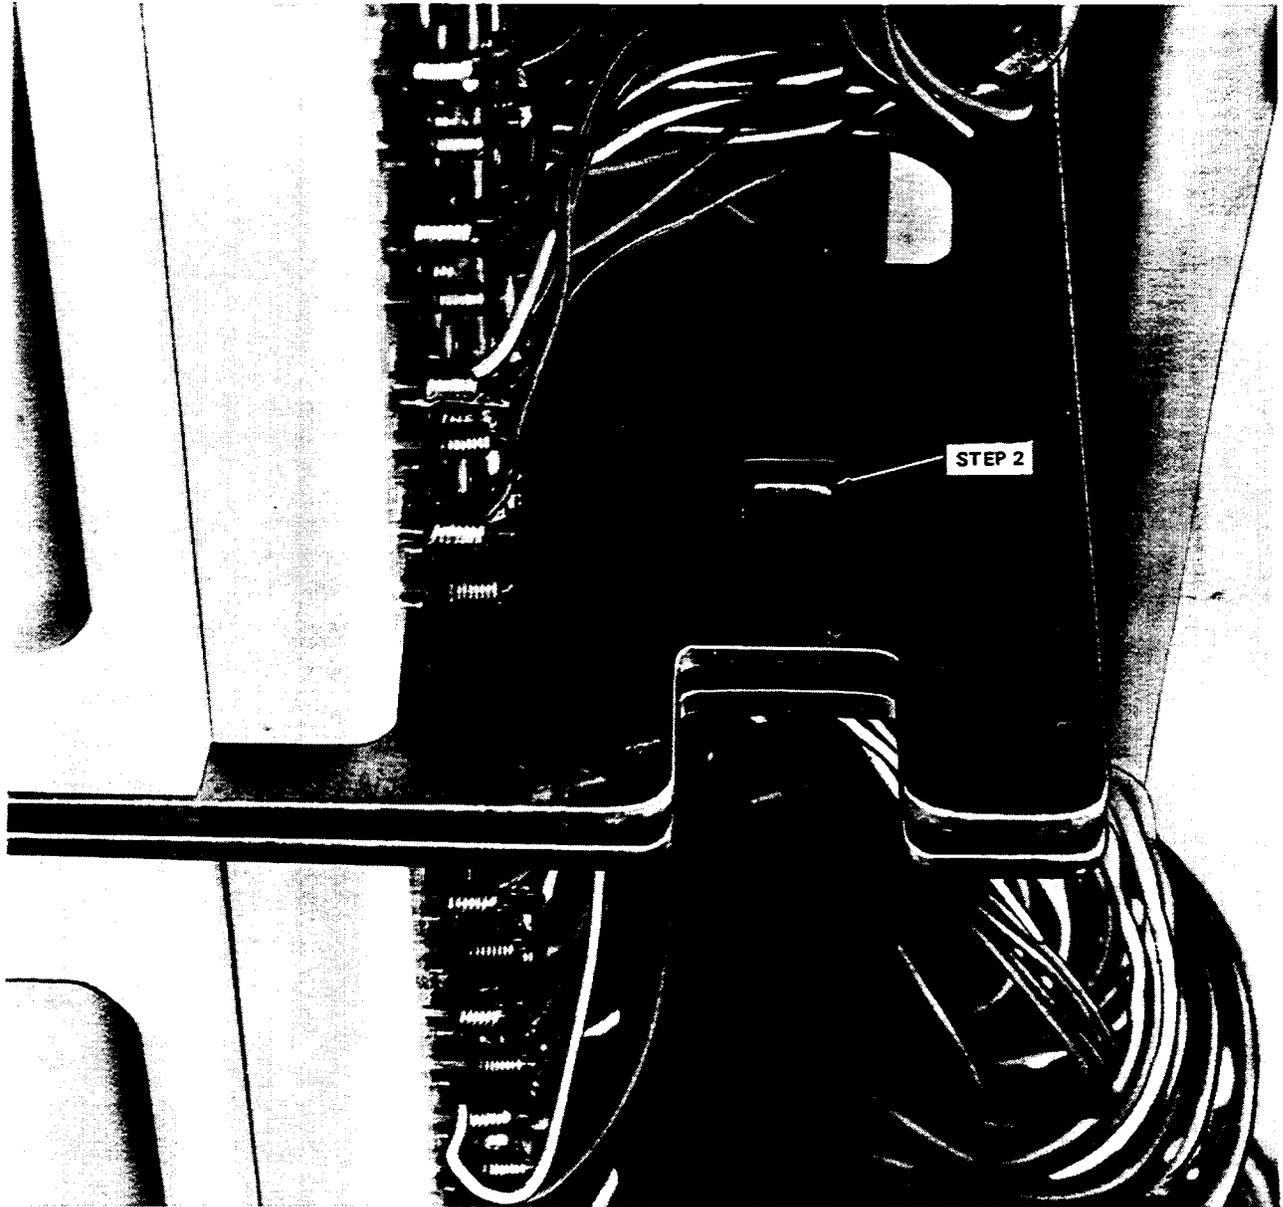

Figure 16—Seating Bottom Tab Connector Into Slot of Top Connector
- (1) See Figure 16 for the number that corresponds to the following step.
- (2) Push up on both connectors until the tabs are seated in the slots.